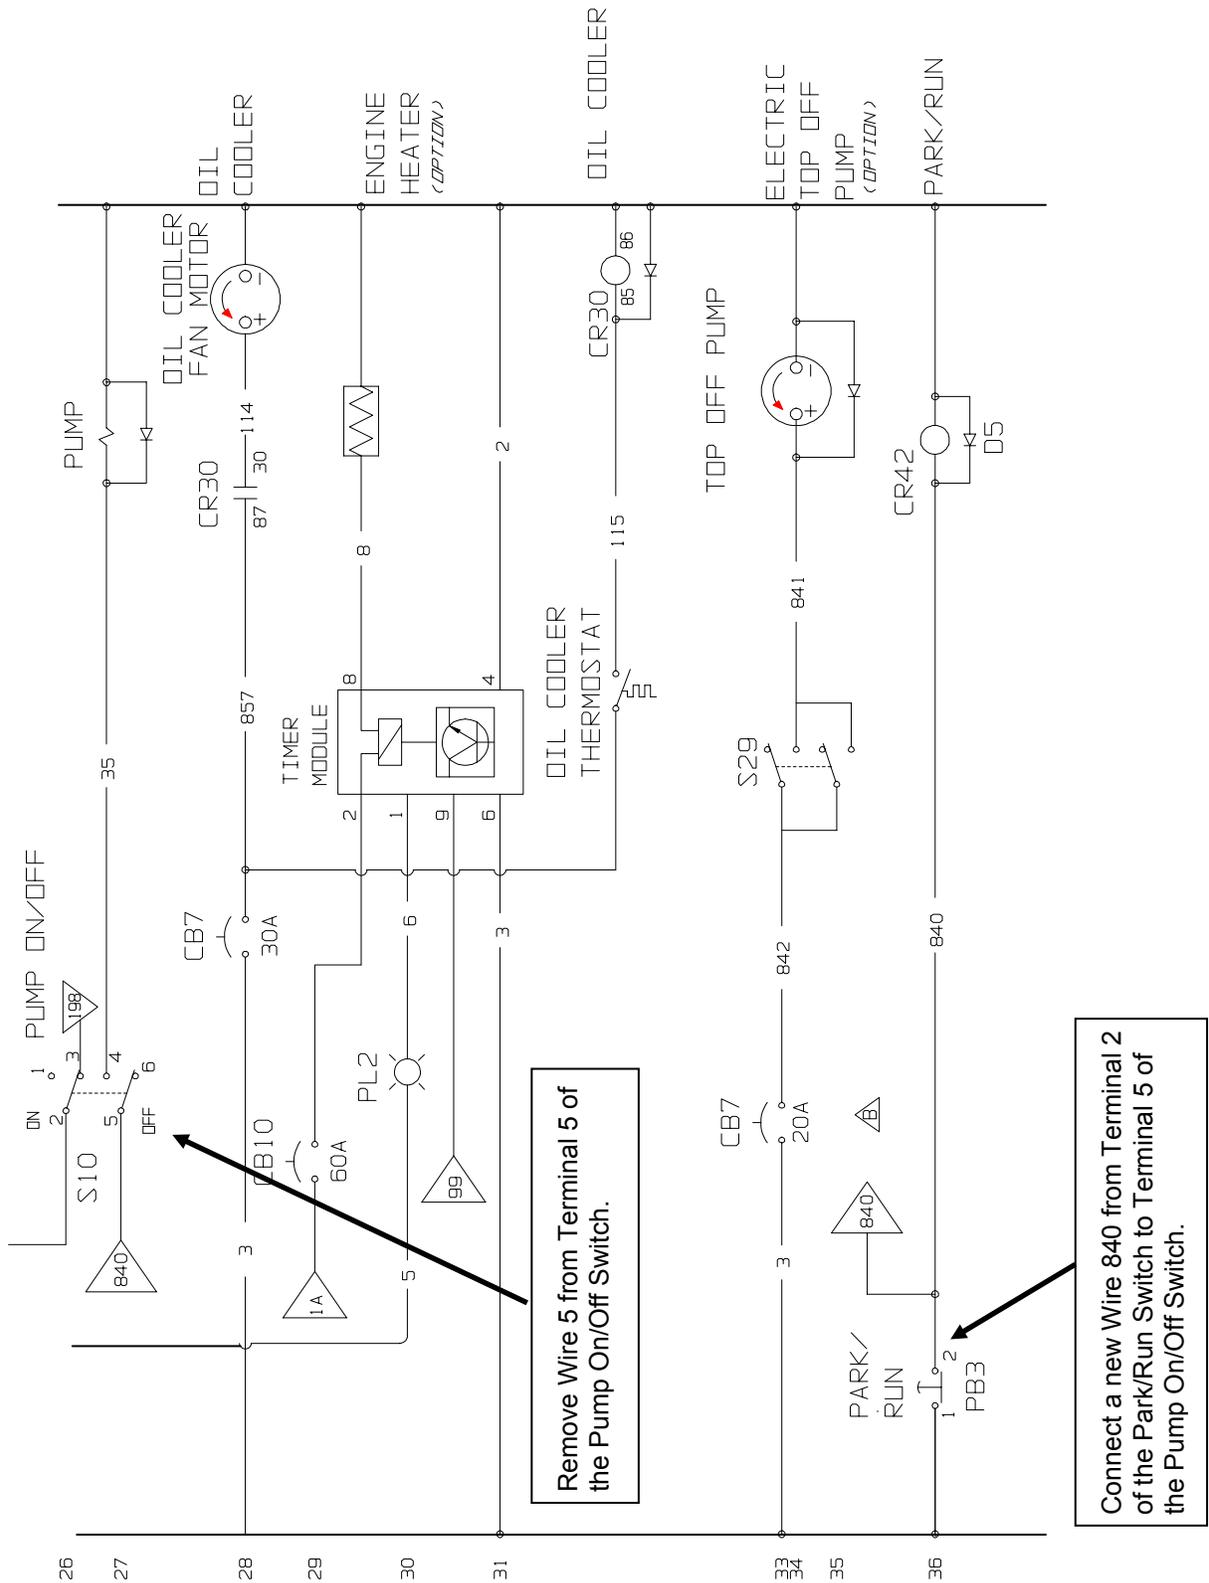

Figure 1
2. **Connect a new Wire #840 from Terminal 2 of the Electrical Interlock Pushbutton to Terminal 5 of the Pump On-Off Switch.** Electrical power to the pump switch will be interrupted when the Electrical Interlock Pushbutton is depressed preventing the pump from developing pressure. See Figure 1.